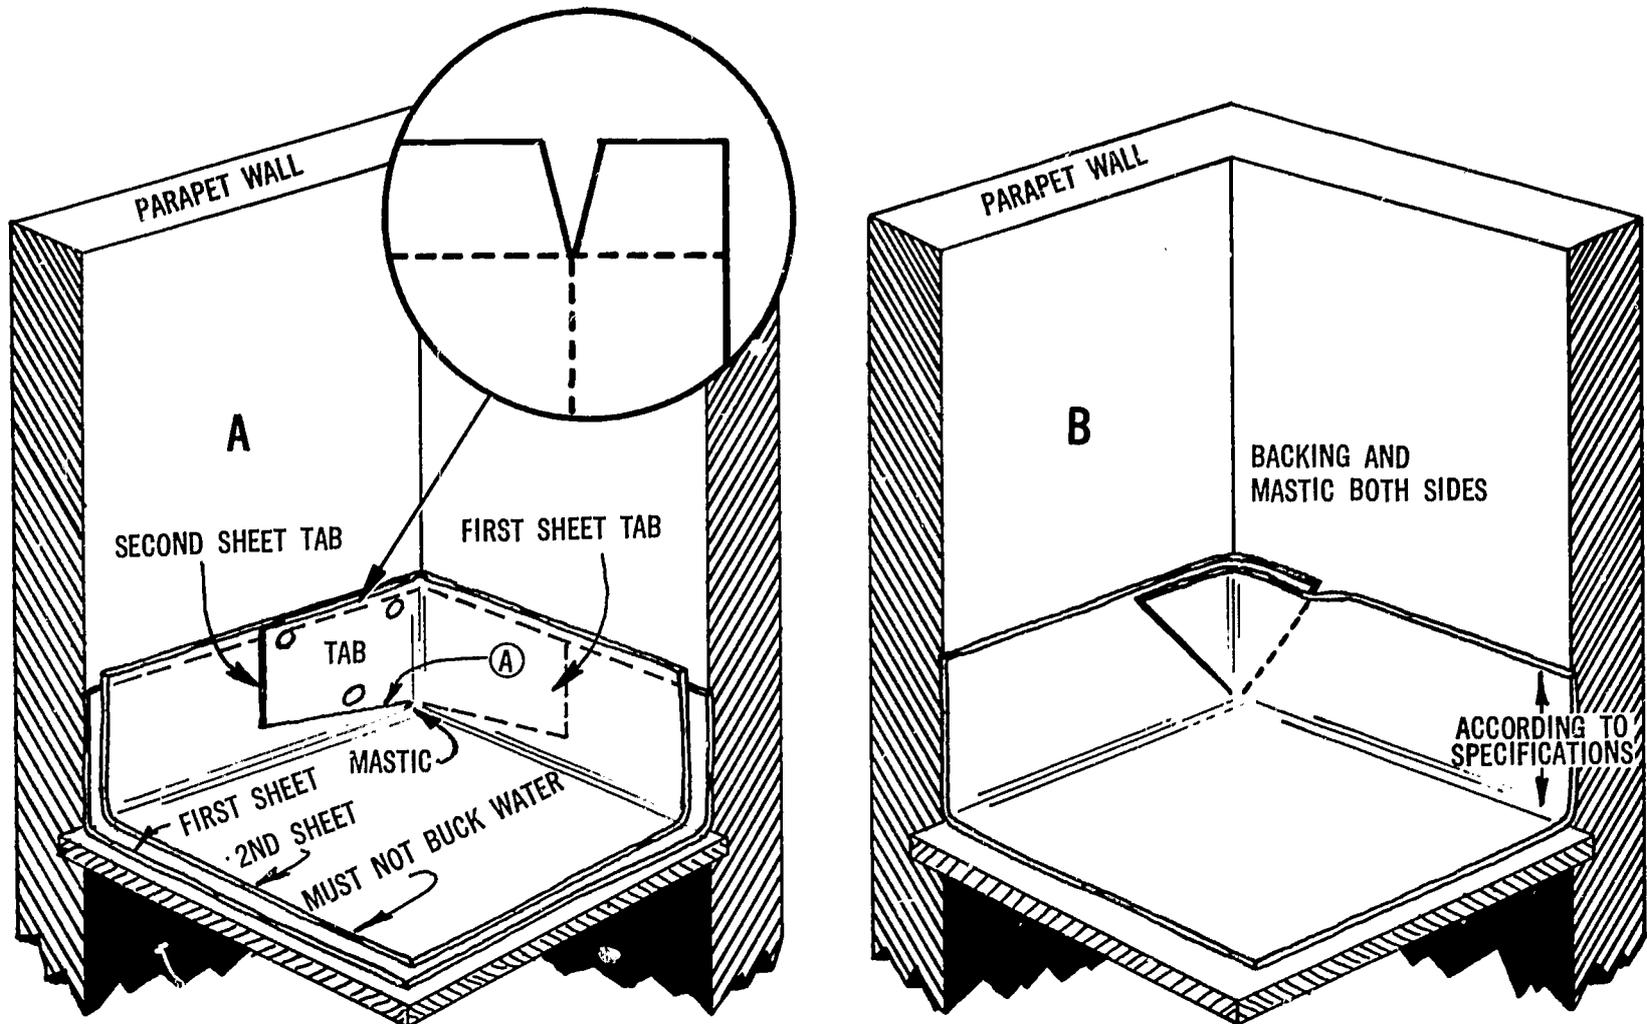

Fig. A-7. Cutting and folding an inside corner without a cant strip
Two possible ways that felt can be cut to form an inside corner are shown in Fig. A-7. The recommended procedure follows:
- Lay the first sheet of felt (indicated by the dotted lines in Fig. A-7, Method "A" ) on the deck and turn its end up the wall 6 inches.
- Make a cut on one crease (designated by (A) in Fig. A-7), forming a tab.
Another method of making this cut on an inside corner (without cant strips) is illustrated in Fig. A-7, Method "B".